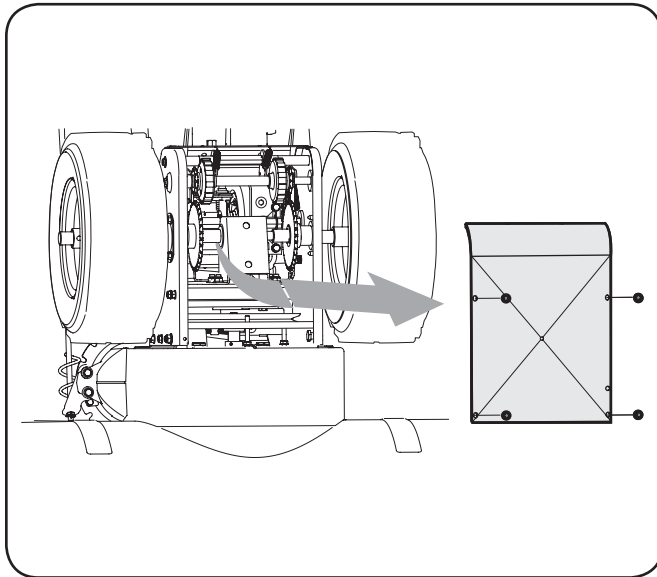

Figure 6-8
2. Remove the frame cover from the underside of the snow thrower by removing the self-tapping screws which secure it. Refer to Figure 6-8.
1. With the snow thrower tipped forward (be certain to run the fuel tank dry before tipping the unit forward), remove the frame cover underneath the snow thrower by removing the self-tapping screws. See Figure 6-8.